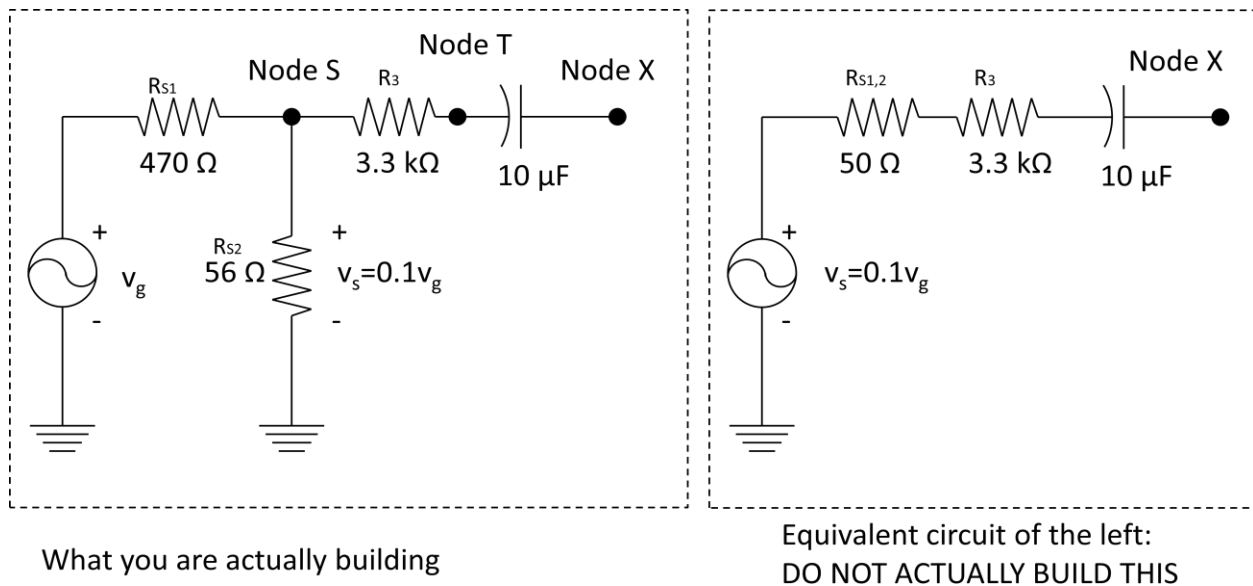
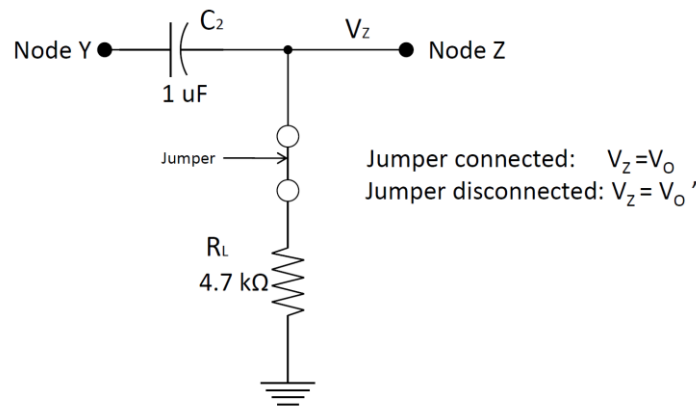

Figure 2.2 Schematic and equivalent circuit of amplifier test circuit.
Figure 2.3 Schematic of load test module
For each amplifier, a $3.3\text{ k}\Omega$ resistor is placed at the series of the input, and the source impedance of the generator is 50Ω . The load impedances and the coupling capacitors can be seen in Figure 2.2 and Figure 2.3.
- Connect the following network (seen in Figure 2.2) to the far left of the circuit board to provide a low impedance AC signal source with low signal amplitude. This circuit is needed since the minimum output amplitude of the signal generator is not low enough for the purposes of this lab.
- Connect the following network seen in Figure 2.3 to the far right of the circuit board to provide an